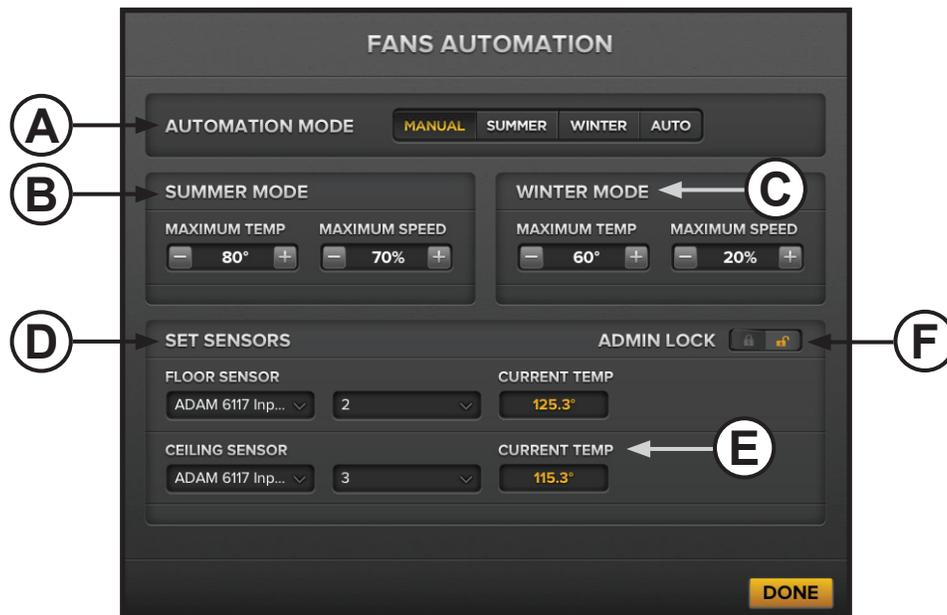

Figure 5—Fans Automation page
5. Next to Automation Changes, touch **Edit**. The Fans Automation page appears (Figure 5).
6. Configure the settings, and then touch **Done**. See Figure 5 below for settings details.